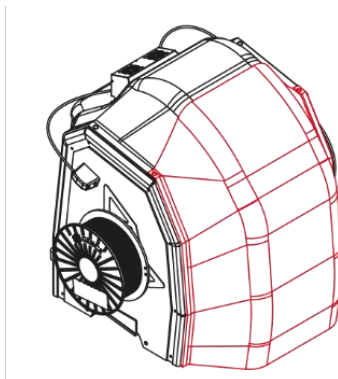

Fig. 72 Mounting the front enclosure part
8. Mount the front enclosure part. Front part should overlap the top enclosure part (fig. 72). Magnets will hold the enclosure assembly together.